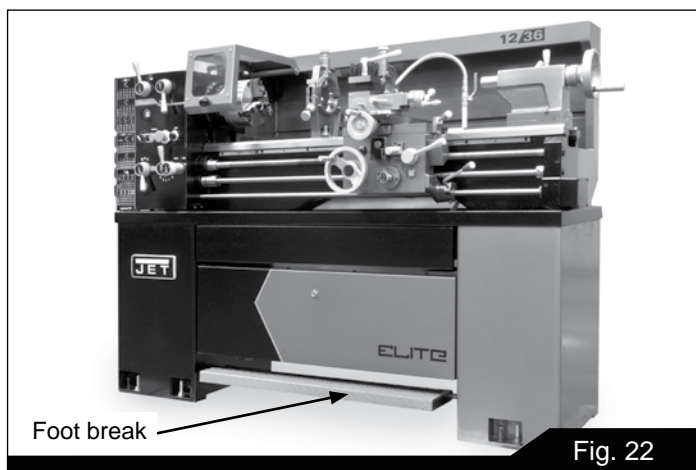

Fig. 22
18. **Foot Brake (Figure 22):** For emergency shutdown of all lathe functions. The connecting rod mechanism is in the bed stand, and activates a brake strap at the main motor. (Caution: Lathe still has power.) The foot brake is not intended for normal stopping of the lathe. Overuse can result in hastened wear of brake parts.